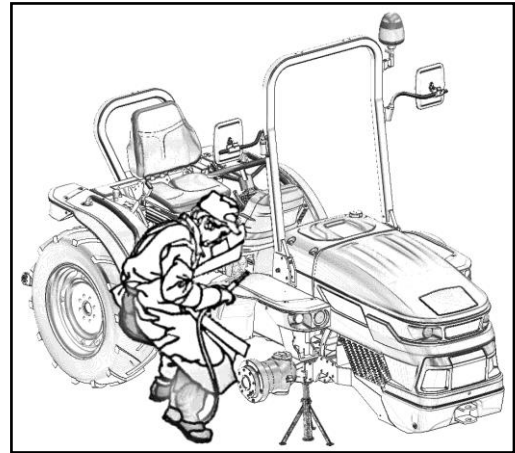

Fig. 27
- Do not heat the painted parts of the tractor as heating generates toxic gases with can damage your health. If any painted parts of the tractor must be repaired by welding, soldering or heating, you must first remove the paint by sanding (Fig. 27).